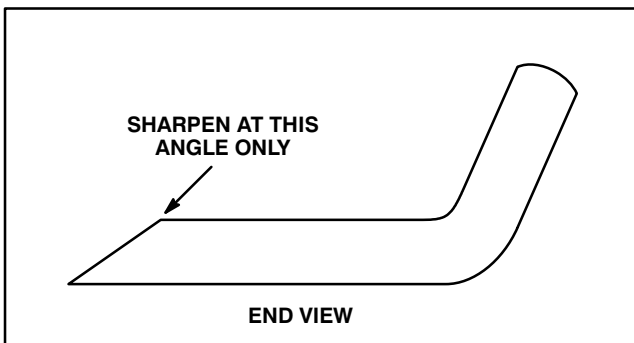

Figure 35
3. Inspect cutting edges of all blades. Sharpen the cutting edges if they are dull or nicked. Sharpen only the top of the cutting edge and maintain the original cutting angle to make sure of sharpness (Fig. 35). The blade will remain balanced if same amount of metal is removed from both cutting edges.